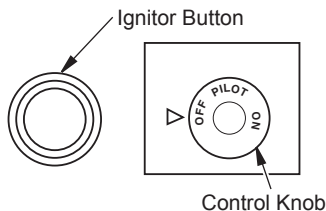

Figure 34 - Control Knob and Ignitor Button Location
5. Wait five (5) minutes to clear out any gas. Then smell for gas, including near the floor. If you smell gas, STOP! Follow "B" in the safety information, column 1. If you don't smell gas, go to the next step.
6. Press in and turn control knob counter-clockwise  to the PILOT position. Press in control knob for five (5) seconds (see Figure 34).